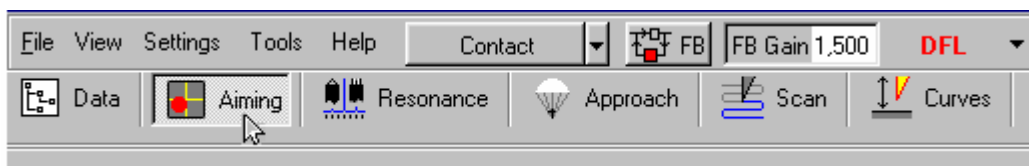

Fig. 3-4
1. Go to the window of photodiode signal adjustment **Aiming** using **Aiming** bookmark of the operations bar (Fig. 3-4). The window comprises a table representing the current values of photodiode signals and an indicator of the position of the laser spot relative the photodiode segments.